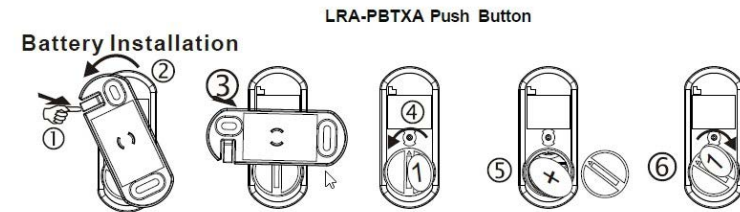
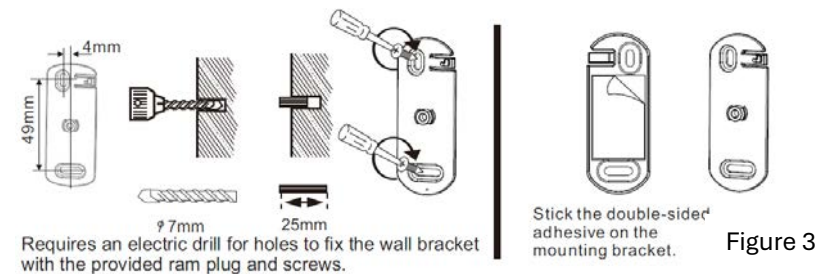
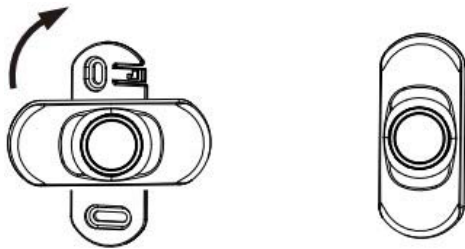

Figure 2
Figure 3
Figure 4
- Turn over the push button so the mounting plate faces you (see Figure 2).
The push button may be mounted using the supplies mounting screws or supplied double-sided mounting tape (see Figure 3). Remove the backplate of the push button (see Figure 2) and mount it to the wall. The push button then snaps onto the mounting plate (see Figure 4).